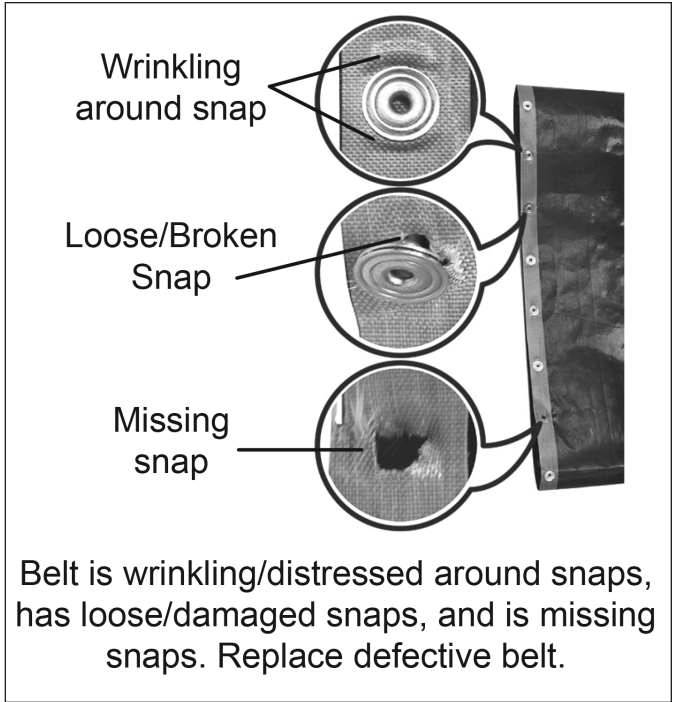

Figure 6. - Examples of Damaged Belt Wraps
3. See Figures 6 - 9. Inspect the front belt for any tears, discoloration, or damage to the Belt Wrap snaps. Replace any damaged Belt Wrap as needed. With proper maintenance the Crown and Main Belt Wraps can last six months or longer.
5. See Figures 6 - 9. Inspect the rear belts for any tears, discoloration, or damage to the Belt Wrap snaps. Replace any damaged Belt Wrap as needed. With proper maintenance the Crown and Main Belt Wraps can last six months or longer.